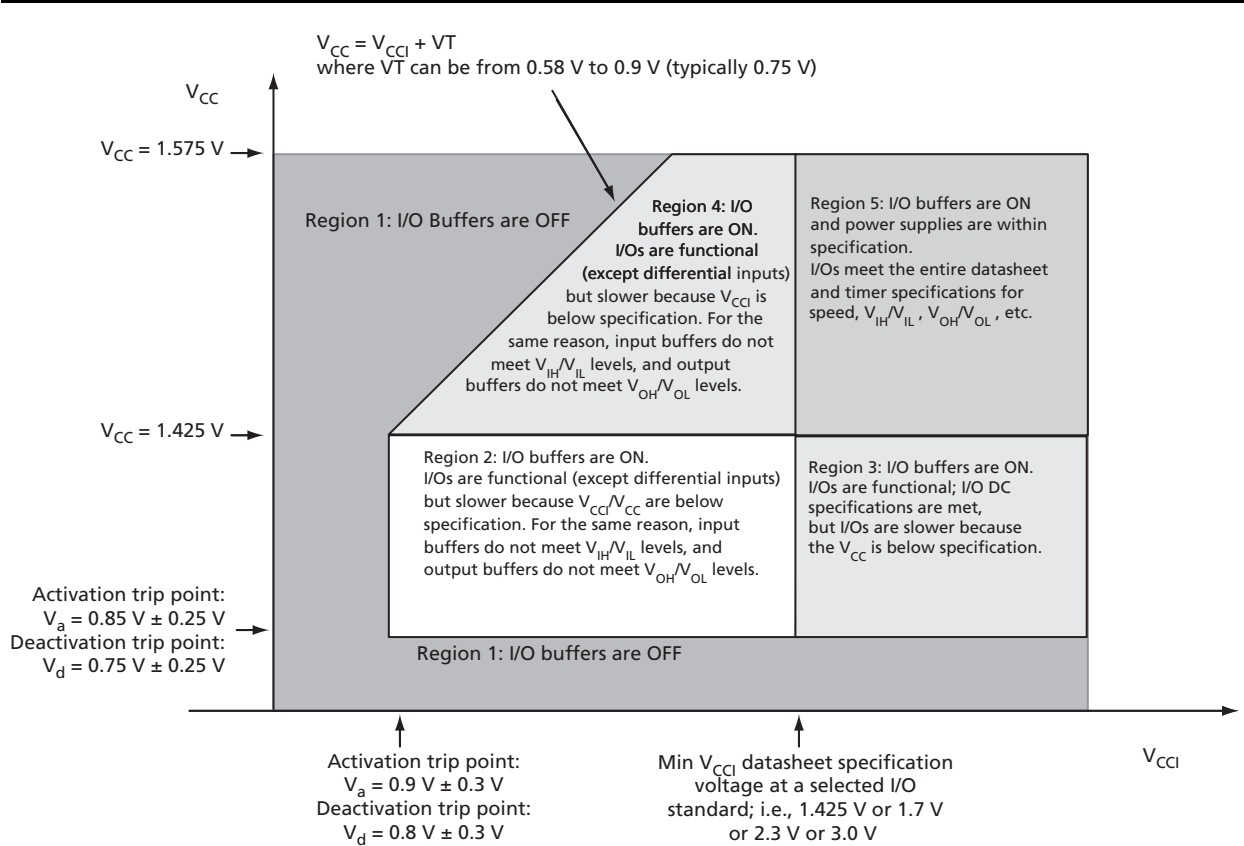

Figure 2-1 • I/O State as a Function of V_{CCI} and V_{CC} Voltage Levels
Sophisticated power-up management circuitry is designed into every ProASIC®3 device. These circuits ensure easy transition from the powered-off state to the powered-up state of the device. The many different supplies can power up in any sequence with minimized current spikes or surges. In addition, the I/O will be in a known state through the power-up sequence. The basic principle is shown in Figure 2-1 on page 2-4.
1. V_{CC} and V_{CCI} are above the minimum specified trip points (Figure 2-1 on page 2-4).
Actel recommends using monotonic power supplies or voltage regulators to ensure proper power-up behavior. Power ramp-up should be monotonic at least until V_{CC} and V_{CCPLLX} exceed brownout activation levels. The V_{CC} activation level is specified as 1.1 V worst-case (see Figure 2-1 on page 2-4 for more details).